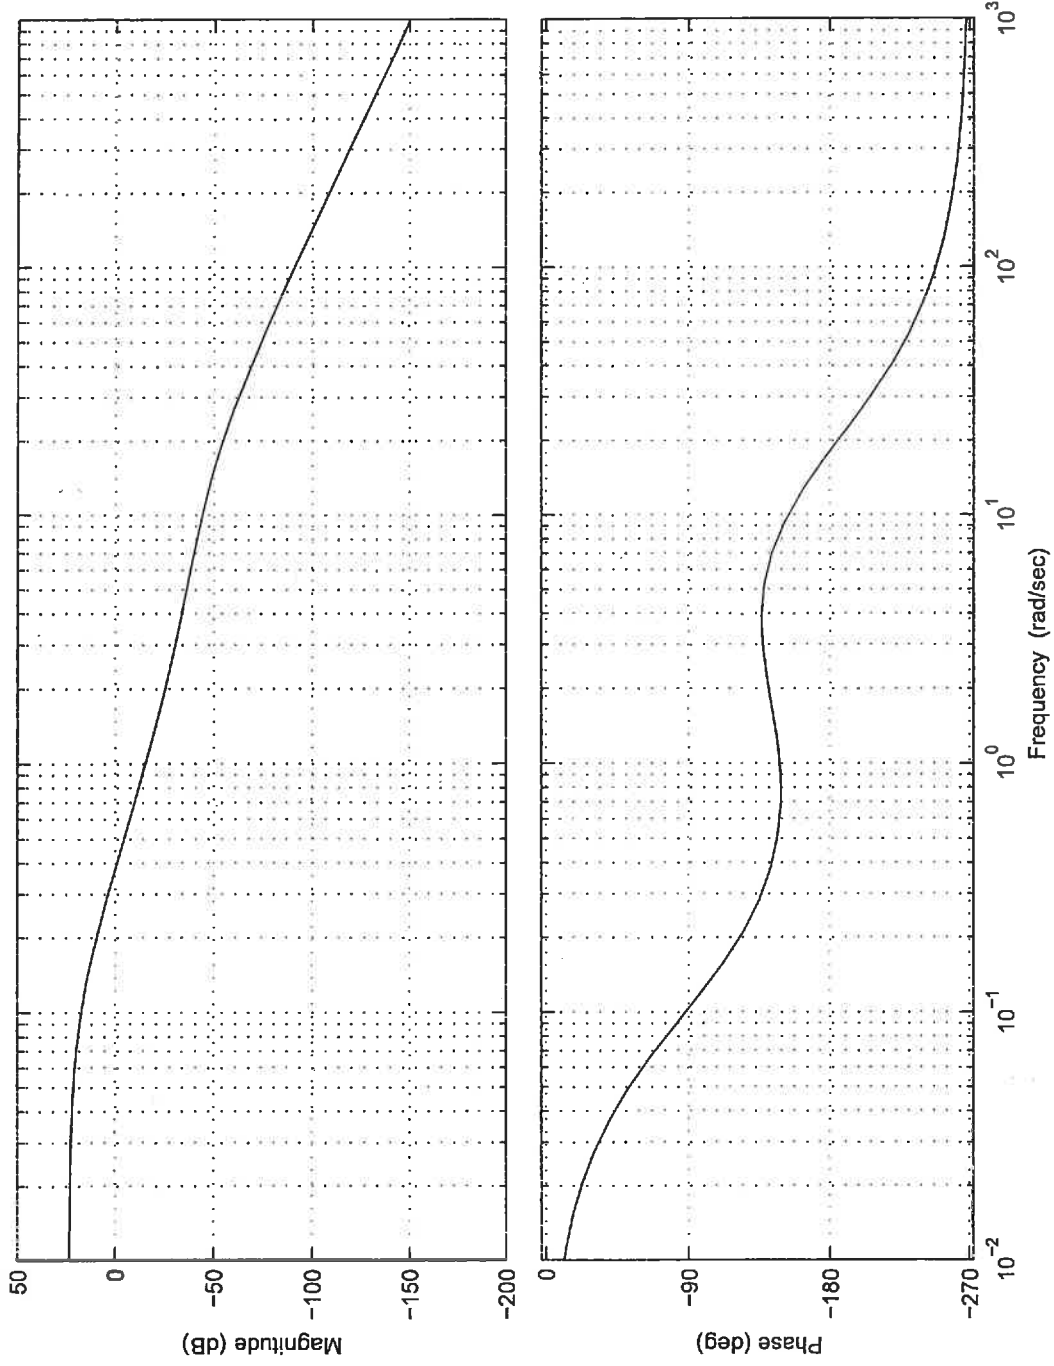

Figure Q6.2
- 1) (5 marks) Open loop frequency response plots of G(s) are shown in Figure Q6.2. Check what the current values of the Phase margin, Φ_m , and the Crossover Frequency, ω_{cp} are and place your answers in Table Q6.1. Next, estimate the uncompensated closed loop step response specs: Percent Overshoot, PO, Steady State Error, $e_{ss(step\%)}$, and Settling Time, $T_{settle(\pm 2\%)}$. Place the specs values in Table Q6.1 as well.